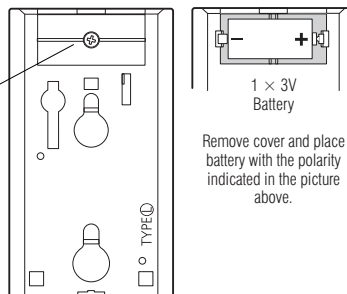

Fig. 3
Battery Installation (Fig.3)
- Remove the motion detector from its mounting plate by holding the sensor by its sides and pushing up. Remove the battery cover (see Figure 3). Remove the old battery and install new battery. Place the battery cover back on.
NOTE: The polarity of the battery must be observed (see Figure 3). Improper handling of lithium batteries may result in heat generation, explosion or fire, which may lead to personal injuries.